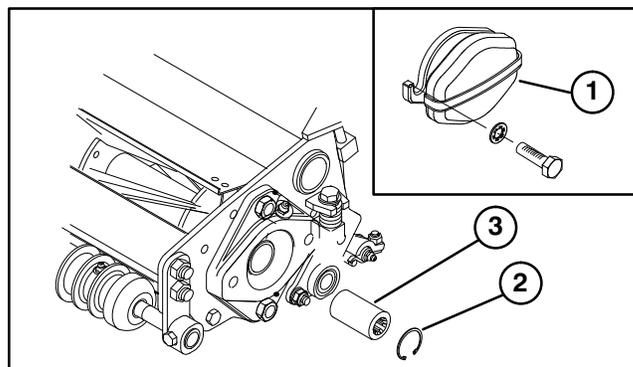

Figure 8
INSTALL CUTTING UNITS (Fig. 8–10)
- A. Remove (2) capscrews and lockwashers securing counter weight to left end of cutting unit. Remove counter weight (Fig. 8, inset).